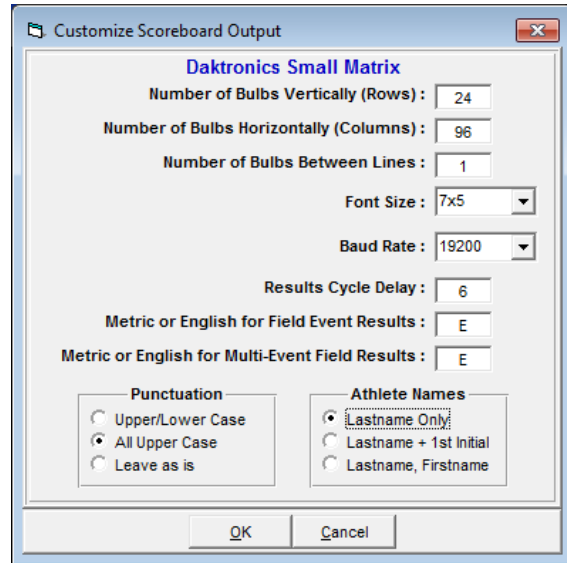

Figure 22: Customize Daktronics Small Matrix
7. Go to **Interfaces > Scoreboard – Daktronics Small Matrix > Customize** (Figure 22).